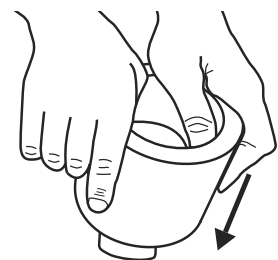

Figure 4
4. Load tape roll onto core set. (See Figure 4)